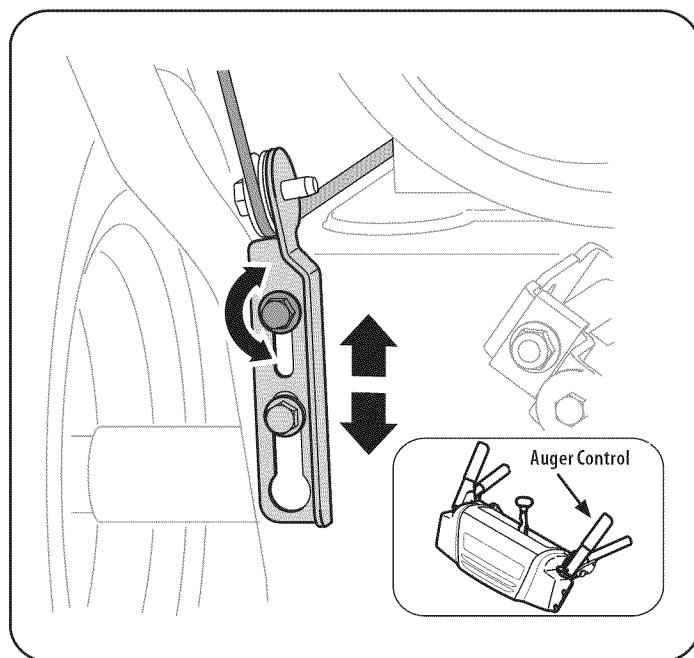

Figure 15
1. The auger control is located on the left handle. See Figure 15 inset. When the auger control is released and in the disengaged "UP" position, the cable should have very little slack. It should NOT be tight.
7. To readjust the control cable, loosen the upper hex bolt on the auger cable bracket. See Figure 15.